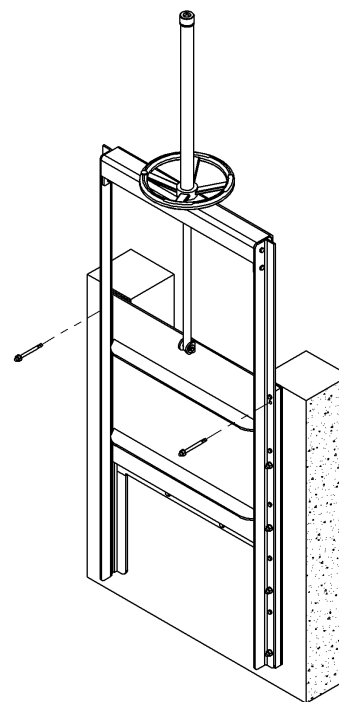

Figure 2
- Drill and install an anchor bolt on each side of the gate (see Figure 2). After installing the first anchor bolt, and prior to drilling the hole of the other side, make sure the frame is perfectly leveled.